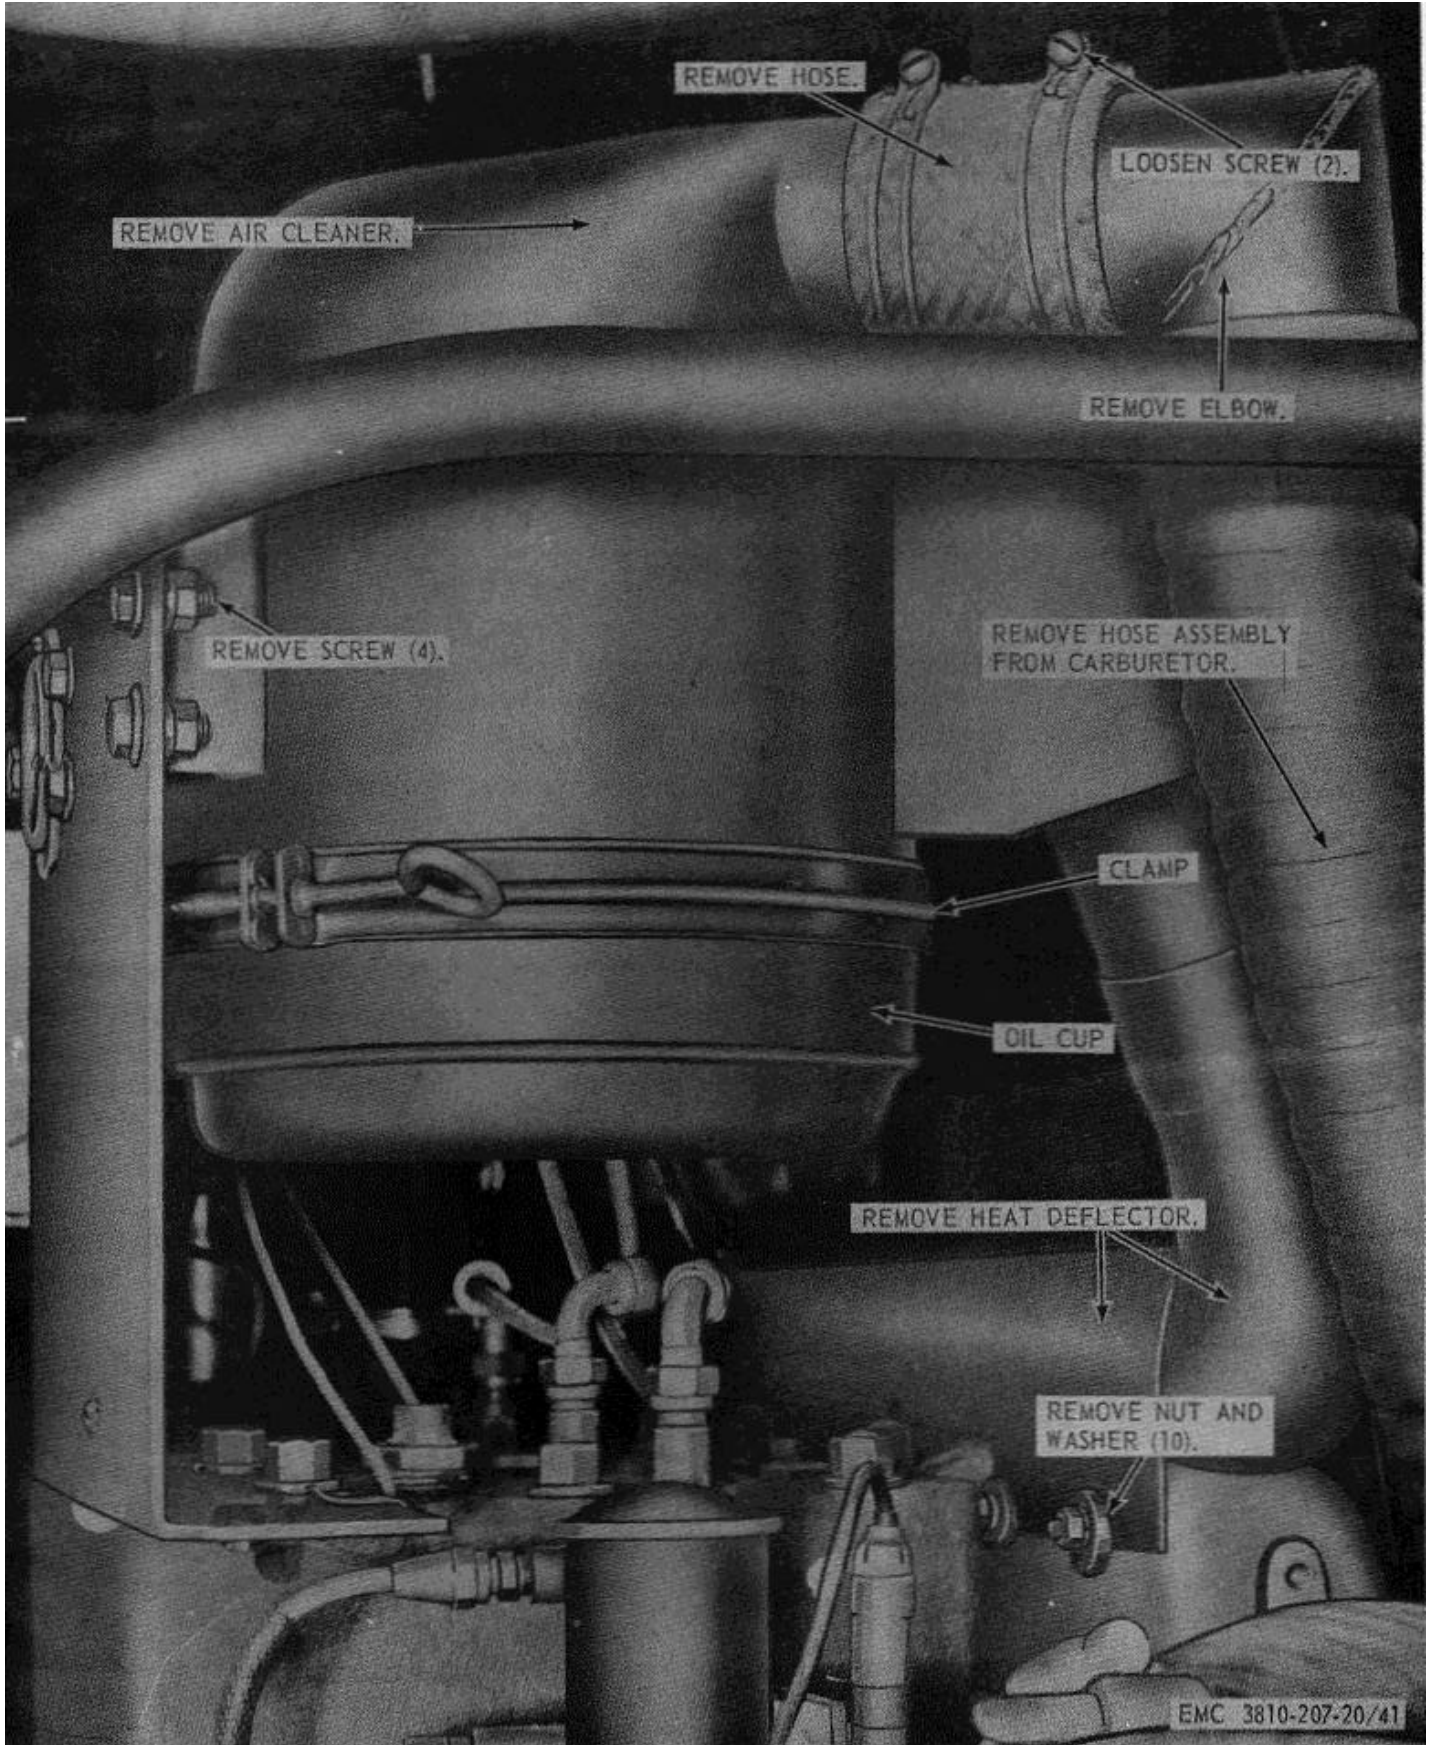

Figure 41. Air cleaner and heat deflector, removal and installation.
- (1) Remove the air cleaner and heat deflector as instructed on figure 41.
- (2) Drain the oil from the air cleaner (TM 5-3810-207-10).
- (1) Install the air cleaner and heat deflector as illustrated on figure 41.
- (2) Service the air cleaner (TM 5-3810 207-10).